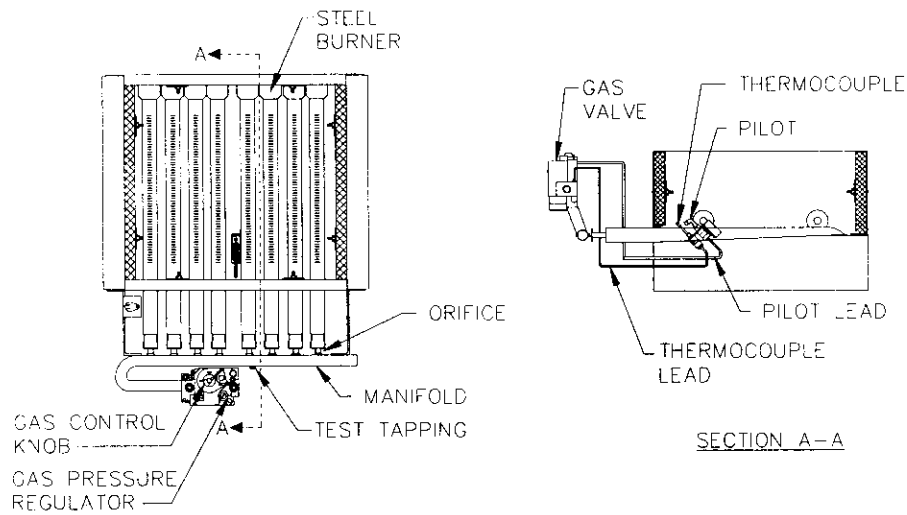

Figure 22: Gas Valve, Manifold and Burner Assembly – Standing Pilot (Continuous Ignition)
- 13 The gas manifold and control assembly are made of gas-tight, completely factory-assembled and installed components of the base assembly. See Figure 22 and 23.